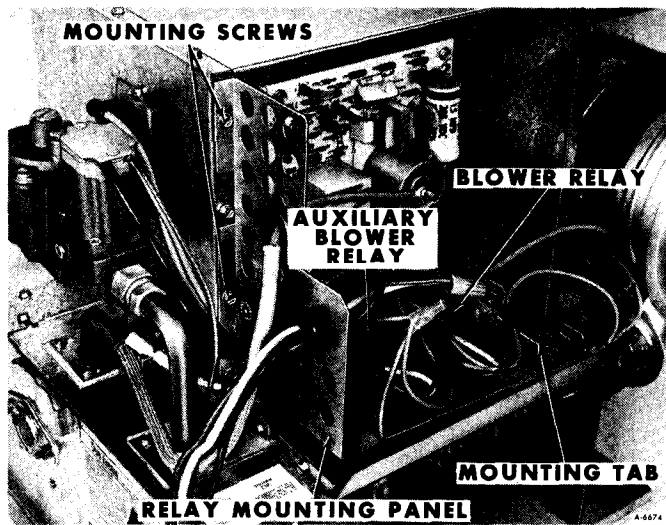

Figure 15—Furnace Relay Mounting Panel Installed
2. Remove two relay panel mounting screws (figure 15).
3. Be sure relay mounting panel engages mounting tab (figure 15). Install two panel mounting screws.